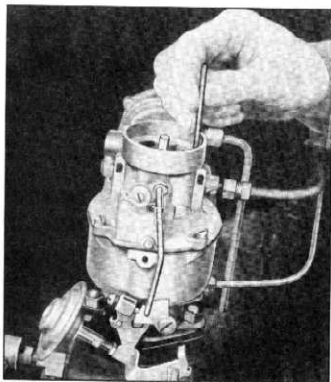

Fig. 105—Checking Choke Valve
1. Place end of idle adjusting screw on the next to highest step of the fast idle cam. Using gauge J-5120, see if small end of gauge (.073") just slides easily between lower edge of choke valve and bore of carburetor (fig. 105).